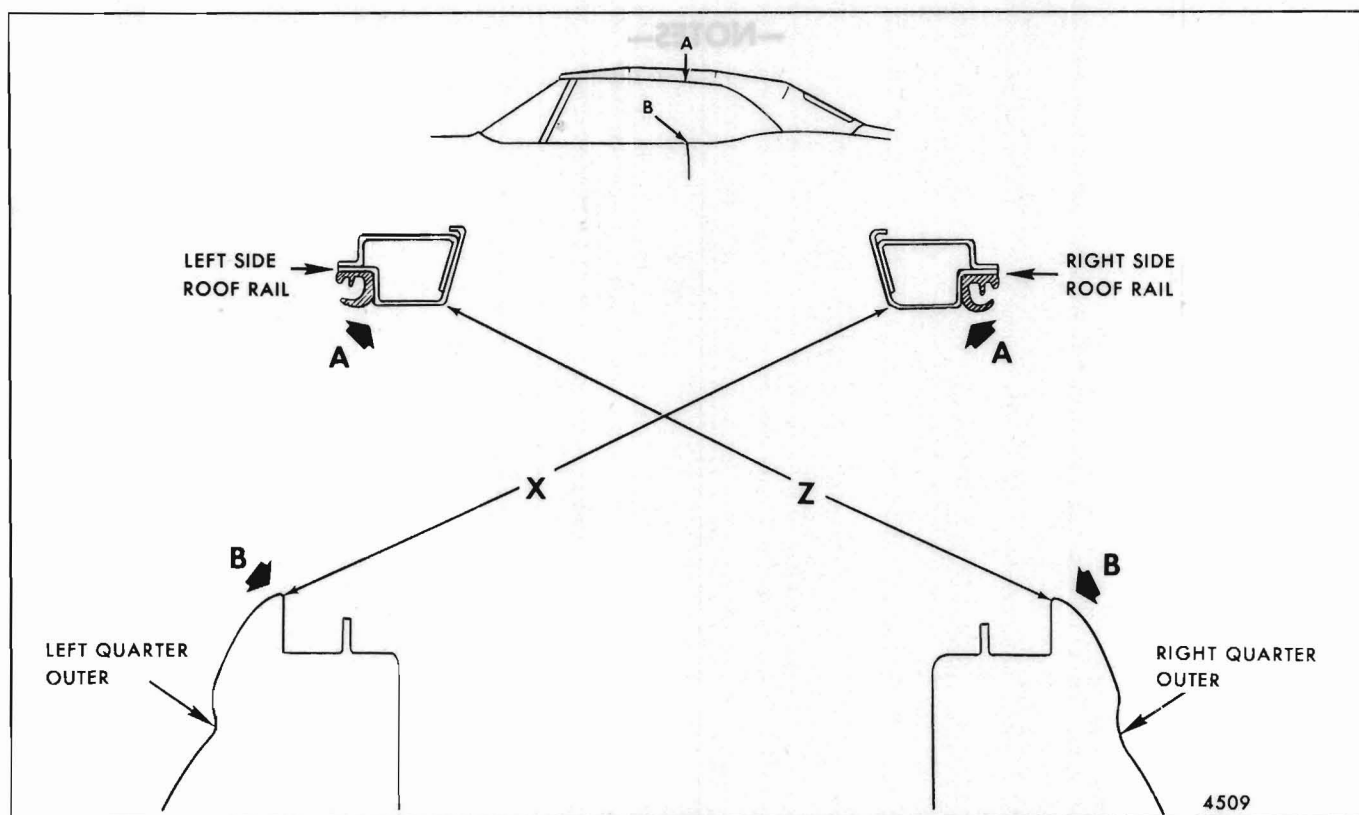

Fig. 29-Diagonal Check of Side Roof Rails
5. Cross-check body with tram gauge or tape measure as described in Figure 29. Side rails are in good alignment when both diagonal measurements are within $3/8$ of an inch. Re-check measurements to assure accuracy. If difference between measurements exceeds $3/8$ of an inch, **side rail of longer measurement** requires adjustment to decrease tension. In this event, adjust affected control link mounting plate forward.
B. When diagonal measurements illustrated in Figure 29 are **within 3/8 of an inch**.
8. Repeat adjustment of mounting plate (Steps 3,4,5,6 and 7) until tension checking tool indicates 50 to 70 pounds of force to separate side rail from center bow stop; and diagonal measurements illustrated in Figure 29 are within 3/8 of an inch.
11. Repeat adjustment of mounting plate (Steps 5,6,7,8,9 and 10) until tension checking tool indicates 50 to 70 pounds of force to separate side rail from center bow stop; and diagonal measurements illustrated in Figure 29 are within $3/8$ of an inch.